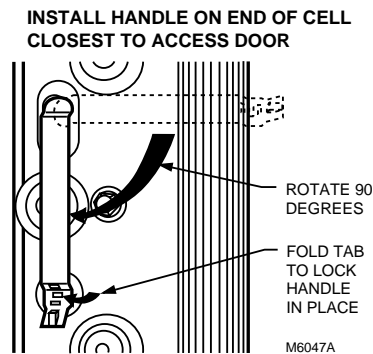

Fig. 8. Install the handle on the end of the cell closest to the access door.
2. Hold the handle sideways and insert the solid tab on the back of the handle into the slot in the cell. Turn the handle 90 degrees clockwise to align the divided tab with the square hole. See Fig. 8.